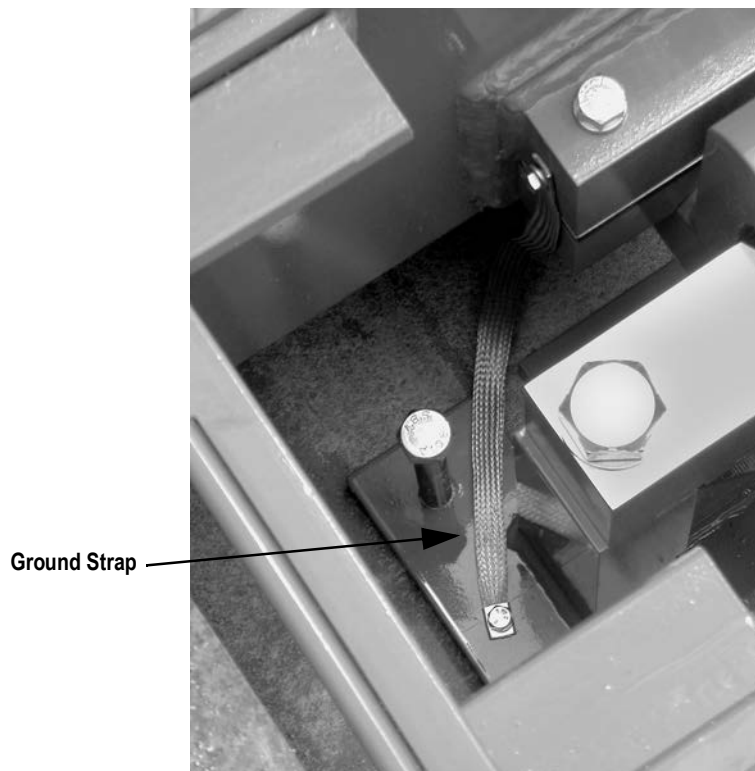

Figure 4-11. Ground Strap
7. Tighten the bolt securely with a wrench (Figure 4-11 on page 13).